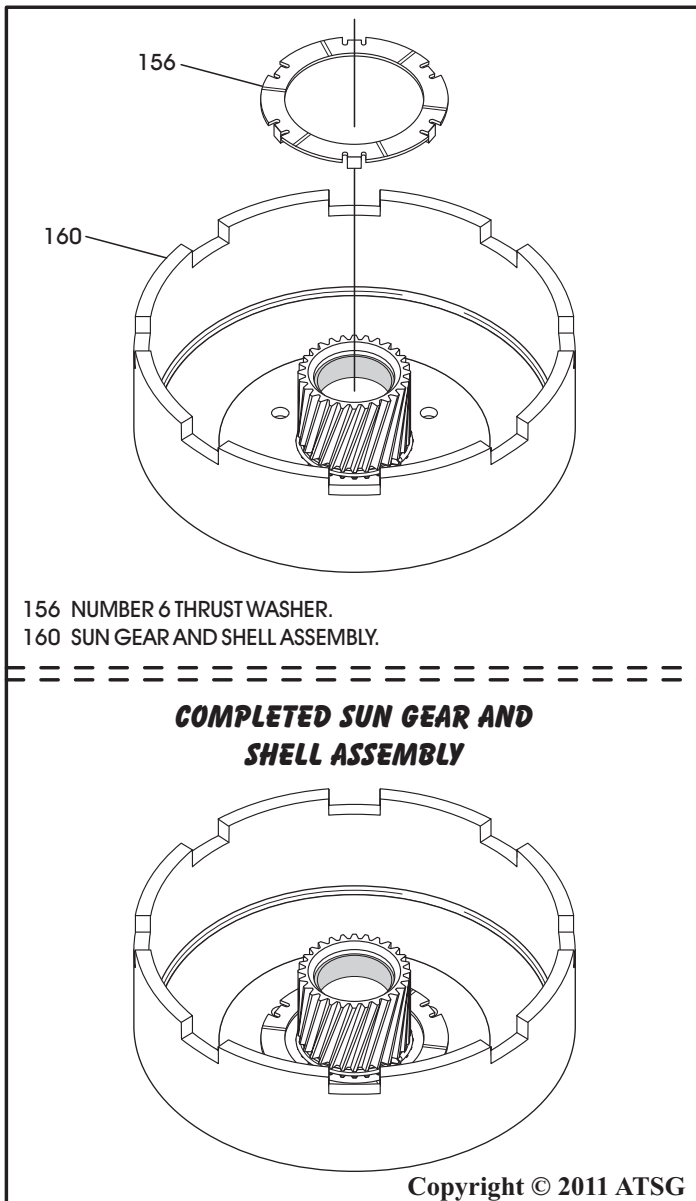

Figure 140
16. Turn the sun gear and shell assembly over and install the number 6 thrust washer, as shown in Figure 140, and retain with Trans-Jel®.